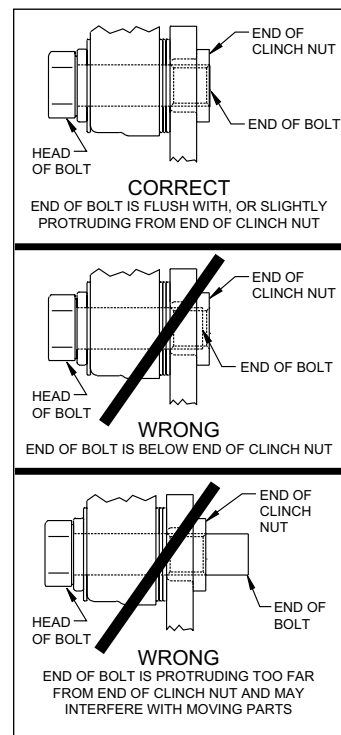

Figure 5. Clinch Nut Engagement Diagram
CAUTION: All mounting bolts must fully engage clinch nuts. Be sure to check that all bolts are either flush or protruding through flanged side of clinch nut after shimming, Figure 5.
clinch nut, as shown in Figure 5. If necessary place spare shims between washer (19) and caliper mounting ear to achieve the proper clinch nut engagement. Once the caliper alignment and clinch nut engagement are correct, remove the caliper bolts and caliper.